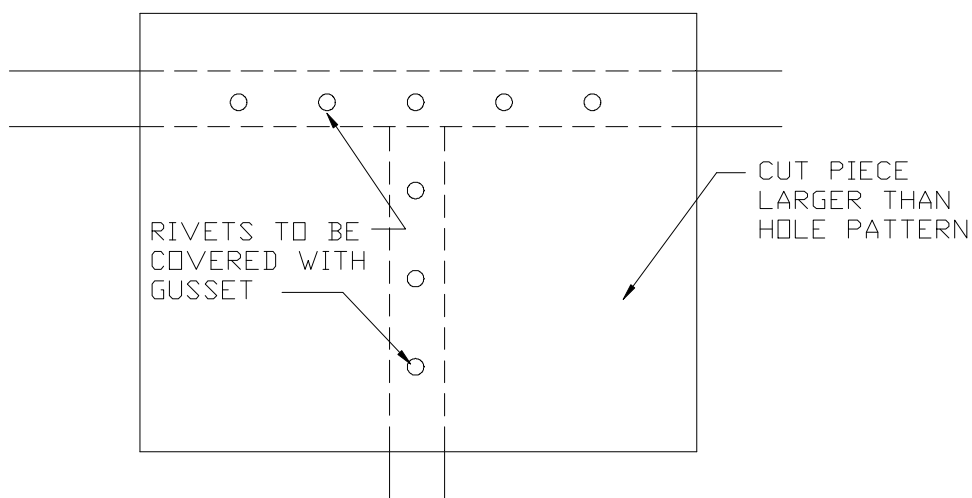

Figure 1.25.1
- 1) First, find the rivet hole that needs to be covered with a Gusset. Cut a piece out of the appropriate material to more than cover the rivet holes. See Figure 1.25.1.